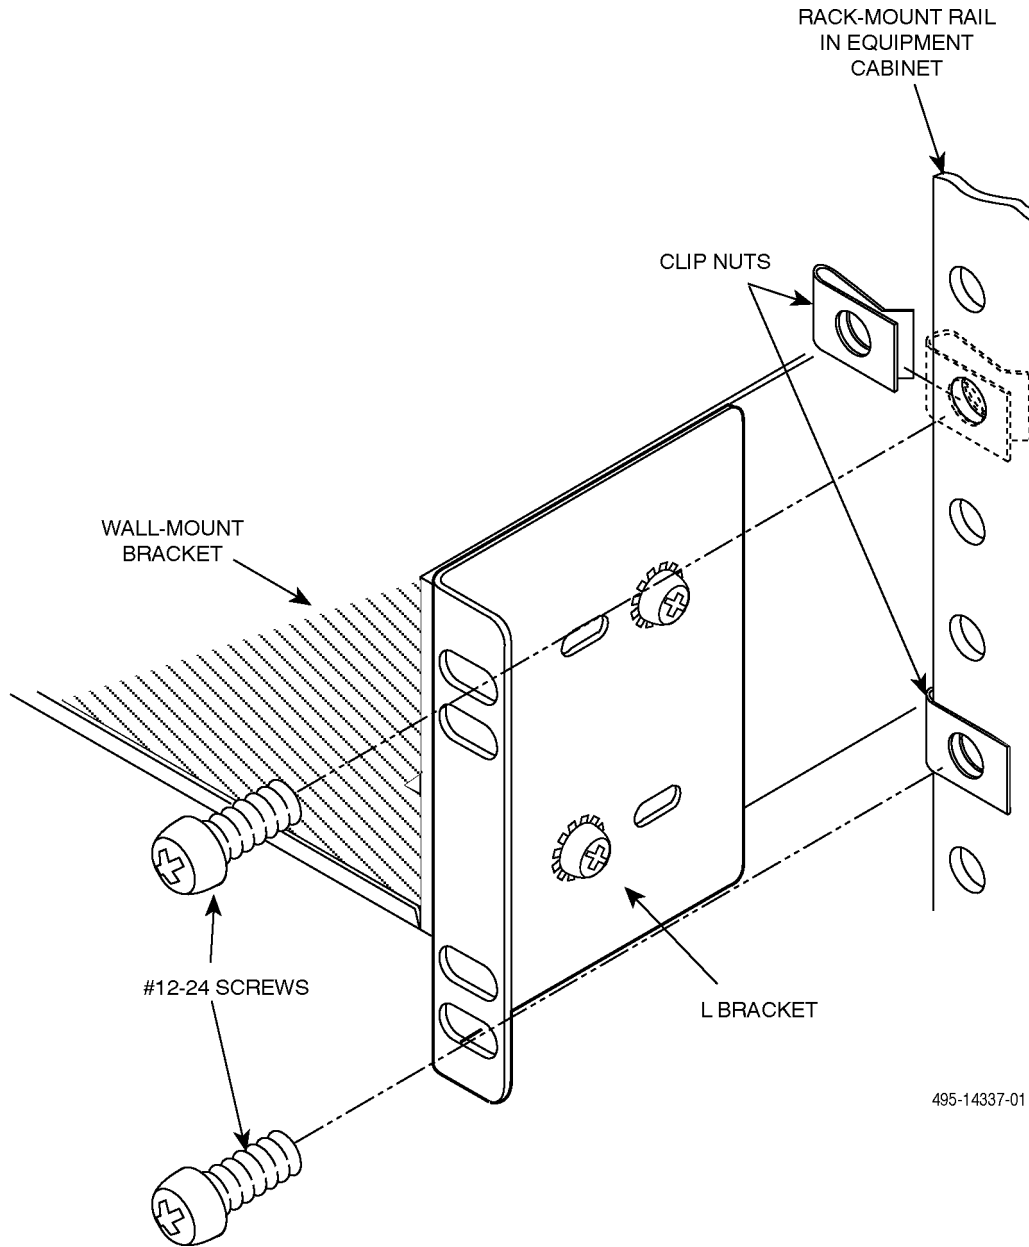

Figure 5. L Bracket Attachment to the Rack-Mount Rail
4. Position the two clip nuts on the Rack-Mount Rail inside the equipment cabinet at the proper spacing and desired height. Refer to Figure 5. Proper spacing for the RS-310-C cabinet is 1.75 inches and for the DATAPHONE cabinet is 1 inch.
5. Insert the two #12-24 screws provided through the rack-mount screw holes on the L bracket and into the Rack-Mount Rail in the equipment cabinet. Refer to Figure 5.